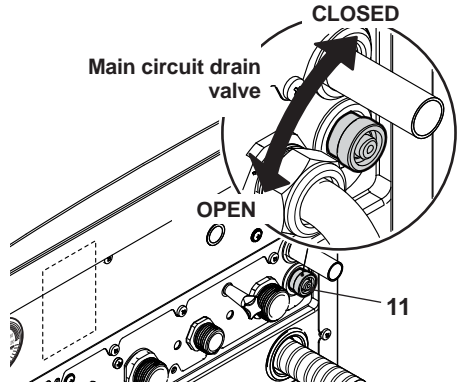

Fig. 9.5
- Loosen the central heating drain cock 11 indicated in Fig. 9.5.